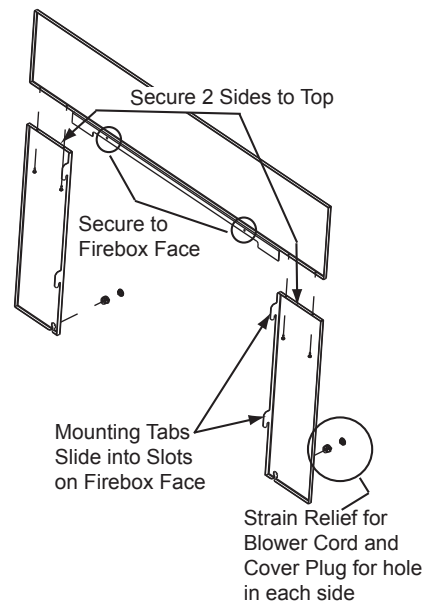

Figure 22.3
2. Using a 4 to 6 inches long Phillips head screw driver attach the side surrounds to the top surround using (2) #8 sheet metal screws on each side provided with the kit. **Figure 22.3.**
5. Slide the assembled trim set over the surround set. and then over the appliance matching the mounting tabs on the side pieces with the slots on the appliance. **Figure 22.3.**
6. Align the 2 screws in the top surround piece to the 2 alignment holes on the appliance top. Secure in place. **Figure 22.3.**